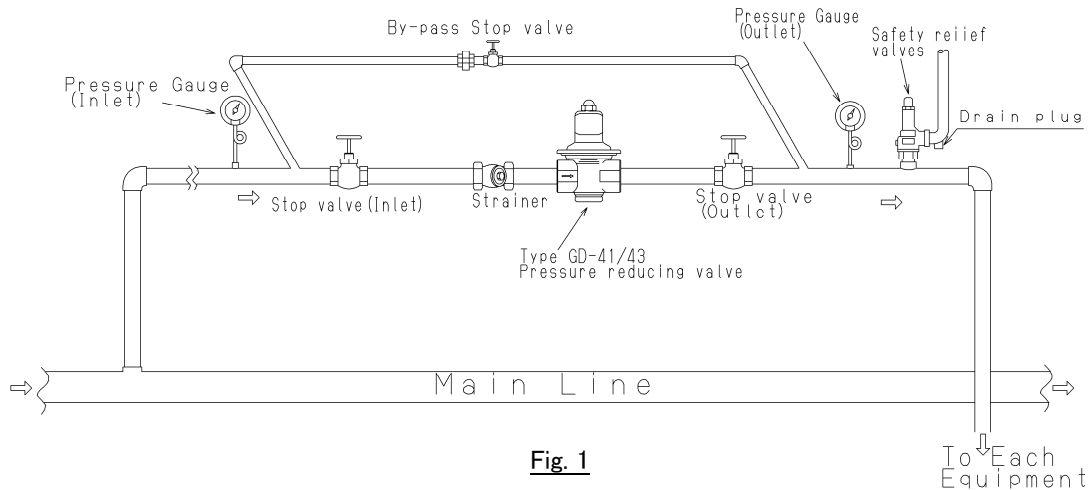

Fig. 1
- (3) Be sure to install a strainer at the inlet side of the pressure reducing valve. (Refer to Fig.1)